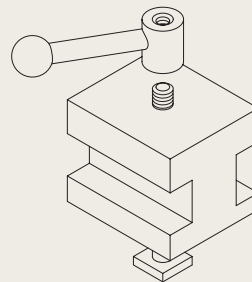

Fig. 7.26 Exercises 4 and 5 – orthographic projections of the three parts of the tool holder
4. Construct a three-view orthographic projection in an angle of your own choice of the tool holder assembled as shown in the isometric drawing Fig. 7.26. Details are given in Fig. 7.27.